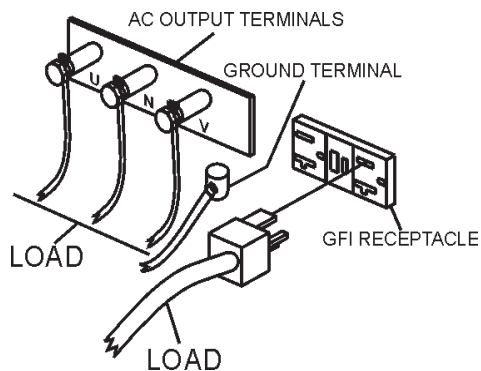

Figure 33. UVW Terminal Lugs (Load)
2. Once it is determined if commercial power is required, connect the load to the UVW terminals as shown in Figure 33. These terminals can be found on the output terminal panel, see page 35, Figure 14. To gain access to the output terminals lift the UVW cover. Make sure to tighten terminal nuts securely to prevent load wires from slipping out.